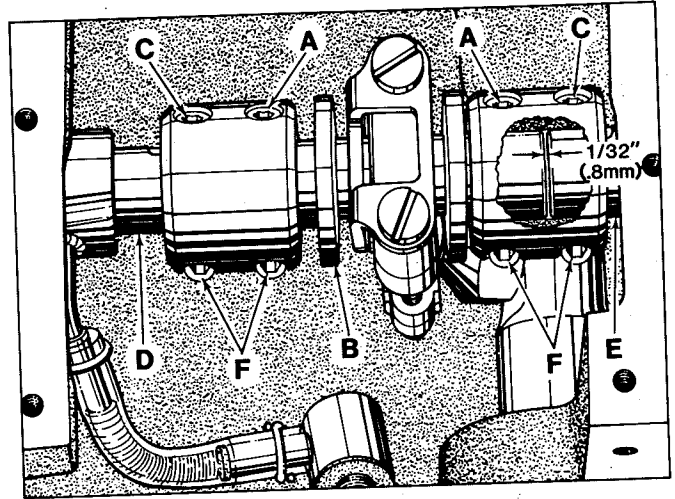
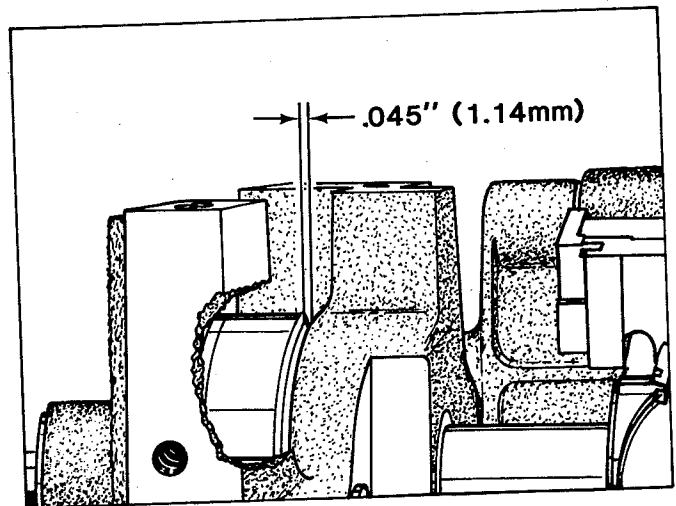

Fig. 21
Fig. 22
As viewed looking down from rear of machine, spot screws (A, Fig. 21) in the couplings must align with the spots in the looper drive crank (B) and set screws (C) must align with the flats on crankshaft (D) and mainshaft (E). Mainshaft must be positioned laterally with .045 inch (1.14mm) clearance between the right side of its head and the bed casting as shown in Fig. 22.
Looper drive crank (B, Fig. 21) must be positioned laterally with $\frac{1}{32}$ inch (.8mm) clearance between it and mainshaft (E) as shown in Fig. 21. Once these settings are made, it is very important that the couplings are tightened in the following sequence for best performance.